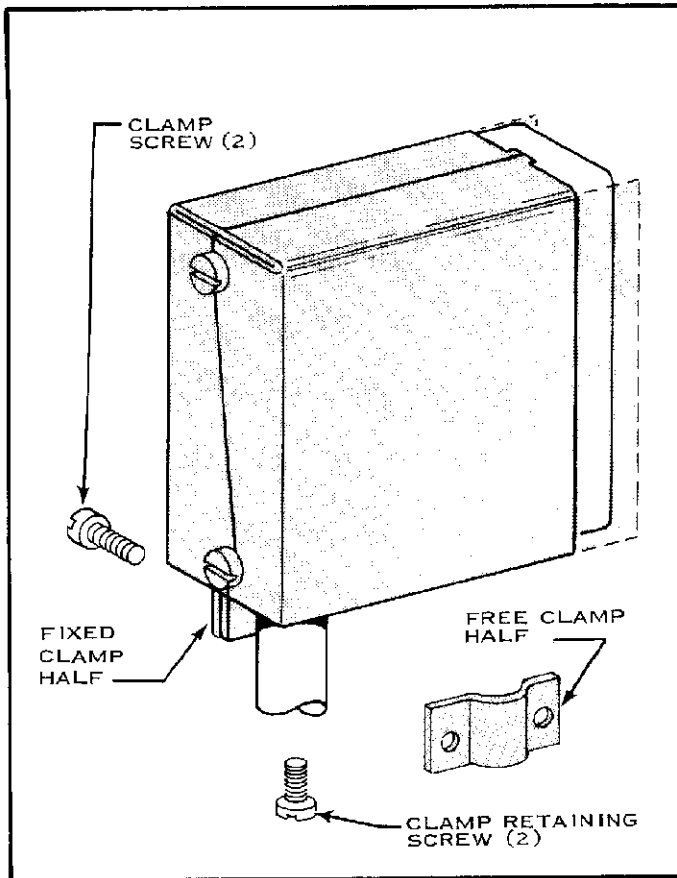

FIG. 2
- (b) Assemble Clamp Retaining Screws to Shield as shown in Figure 2.
(c) Attach Free Clamp Half to Fixed Clamp Half using the two Clamp Screws. See Figure 2. Do not tighten Clamp Screws.